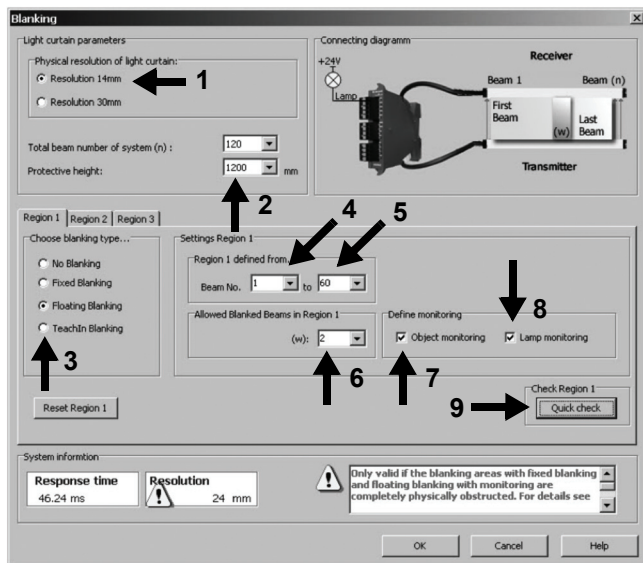

Figure 75: Floating Blanking window
In the case of "Floating Blanking" (3 – Figure 75), the area in which the object is allowed to move must first be defined (4 and 5). Subsequently the number of interrupted beams for "Floating Blanking" can then be defined (6). Finally, the user must specify whether this application operates with object monitoring or without object monitoring (7). Finish the blanking configuration for this region by clicking on the Quick check button. Additional information on floating blanking can be found in chapter 5.7.3 on page 52.